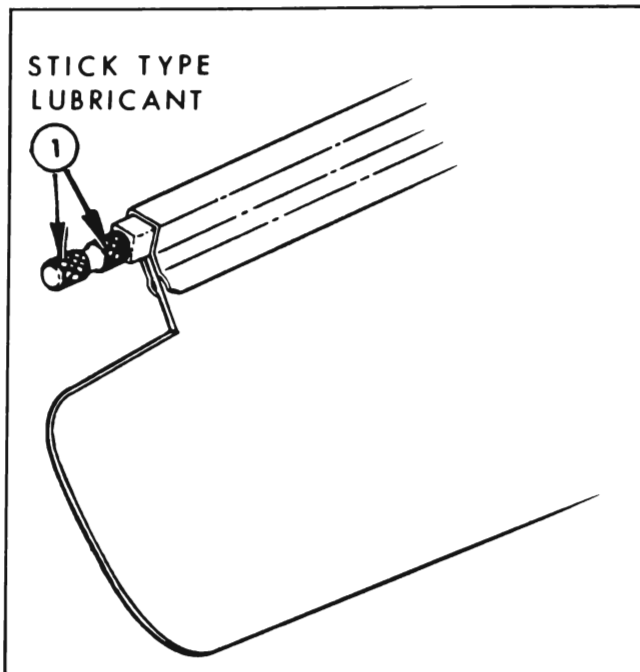

Figure 1-22—Sunshade Rod
19. Sunshade Rod. Remove sunshade assembly from support and apply a thin film of stick-type lubricant to end of sunshade rod (Figure 1-22). Wipe off all excess lubricant.